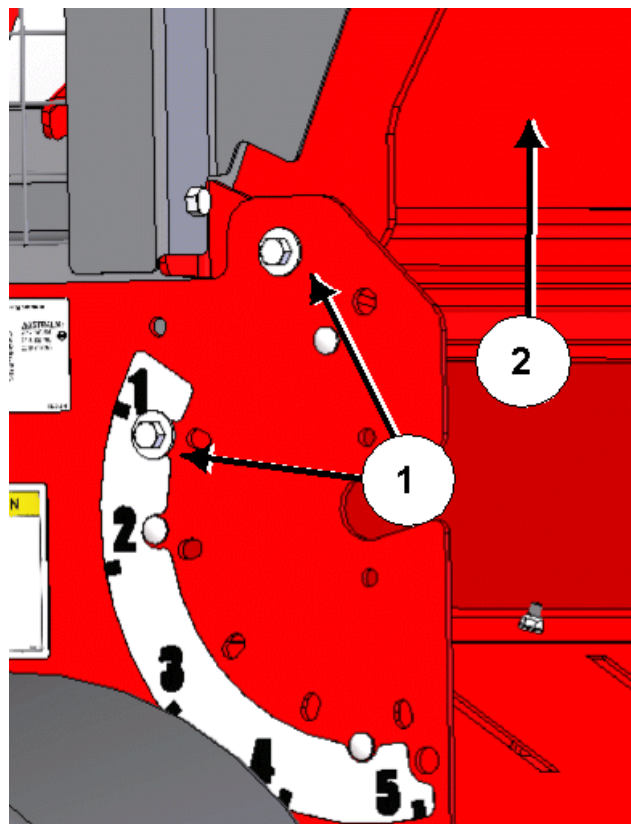

Figure 29: Tighten bolts on front tub wall
9. Tighten the upper bolts (1) fastening the side deflector (2) to the front and rear tub walls; Figure 29.